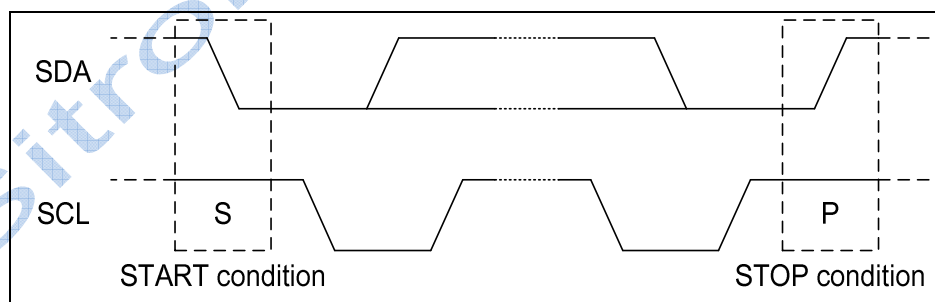

Figure 12 Definition of START and STOP Condition
Both SDA and SCL lines remain HIGH when the bus is not busy. A HIGH-to-LOW transition of SDA, while SCL is HIGH is defined as the START condition (S). A LOW-to-HIGH transition of SDA while SCL is HIGH is defined as the STOP condition (P). The START and STOP conditions are illustrated in **Figure 12**.